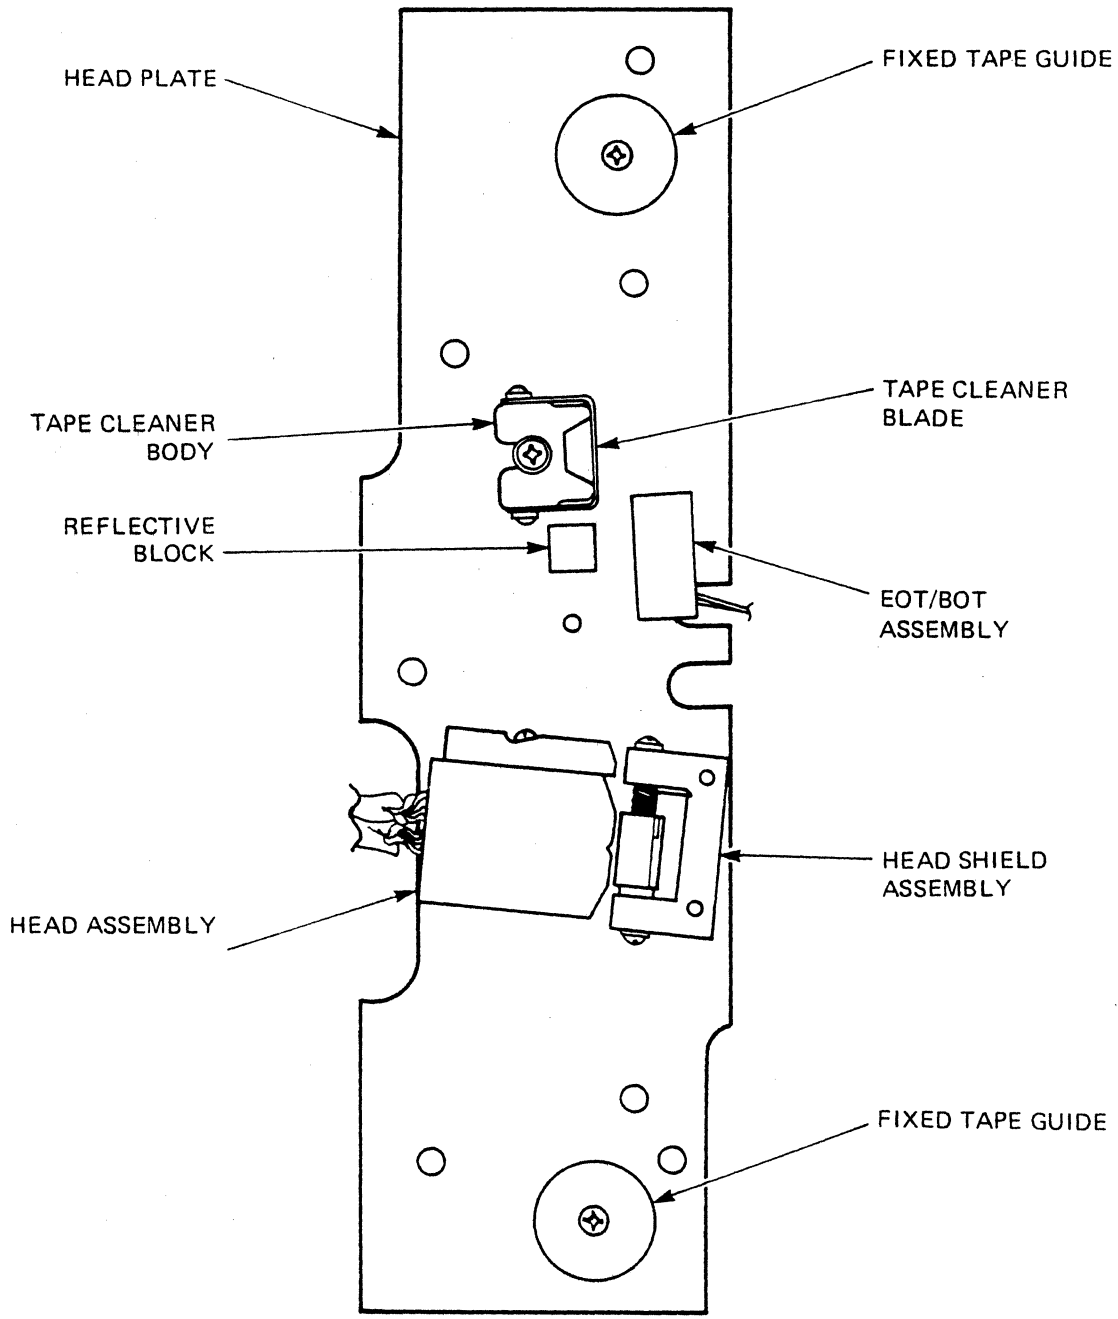

Figure 5-1. Head Plate Assembly
- a. Remove the head covers. Check and, if necessary, adjust positions to ensure that the EOT/BOT tape sensor and the reflective post are parallel to the tape path. Refer to figure 5-1.
- a. Remove the head covers. Check, and if necessary, adjust positions to ensure that the EOT/BOT tape sensor and the reflective post are parallel to the tape path. Refer to figure 5-1.